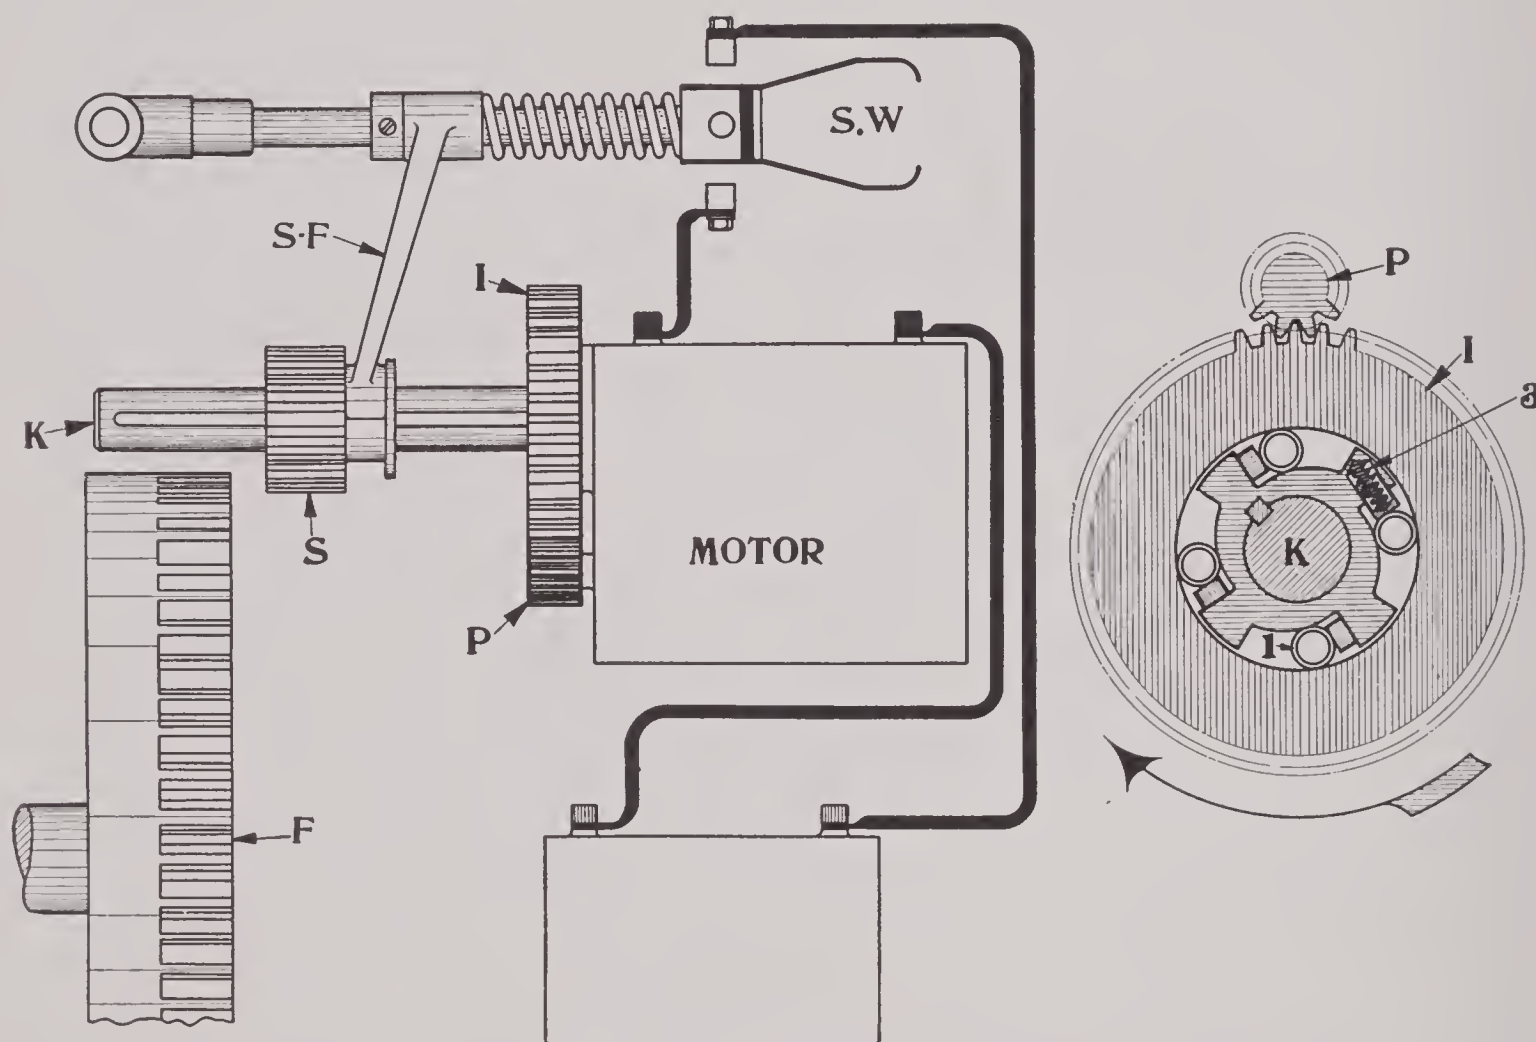

FIG. 289
Fig. 289, right, shows an illustration of the starting motor and the engine. (P) is a small pinion on the armature shaft. (I) is a larger gear meshing with (P) and is mounted
Fig. 289, left, shows a common type of mechanical connection between starting motor and engine using sliding gears which are shifted by the starting pedal. The starting pedal connects to the sliding gear through the shift rod, spring, and shifting fork. When the starting pedal is pressed the gears are brought into mesh before the starting switch is closed. If the gears are in such position that the shift cannot be accomplished till one of the